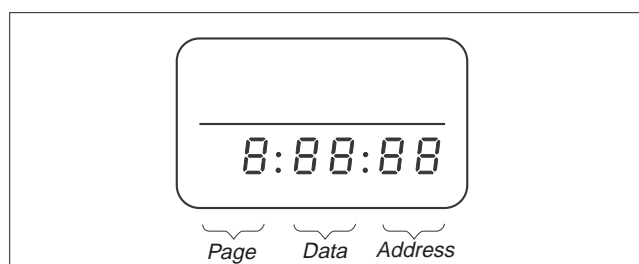

Fig. 5-1-5
- 2) Set the HOLD switch of the adjustment remote commander to "HOLD" (SERVICE position). If it has been properly connected, the LCD on the adjustment remote commander will display as shown in Fig. 5-1-5.